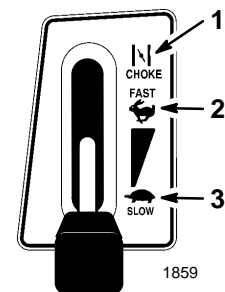

Figure 7
4. Move the throttle lever to “CHOKE” (Fig. 7).
6. After the engine starts, slowly move the throttle lever to “FAST” (Fig. 7). If the engine stalls or hesitates, move the throttle lever back to “CHOKE” for a few seconds. Then move the throttle lever to “FAST.” Repeat this as required.
1. Move the throttle lever to “SLOW” (Fig. 7).